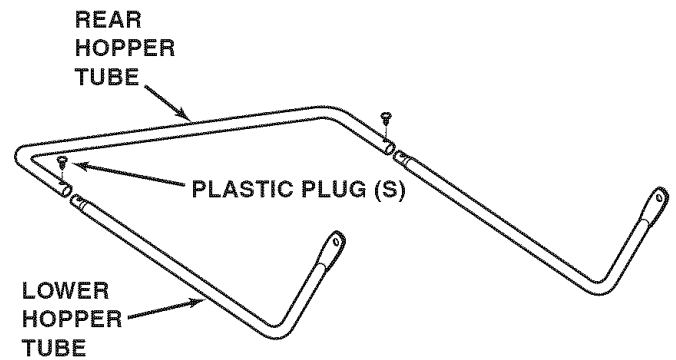

FIGURE 9
- Fit the ends of the two lower hopper tubes into the ends of a rear hopper tube. Align the holes in the ends of the tubes and insert plastic plugs (S). See figure 9.